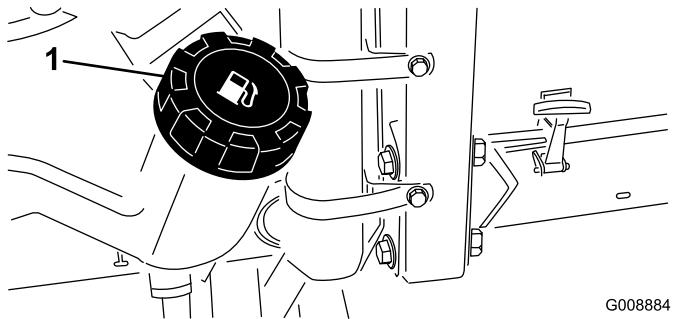

Figure 34
1. Clean the area around the fuel tank cap (Figure 34).